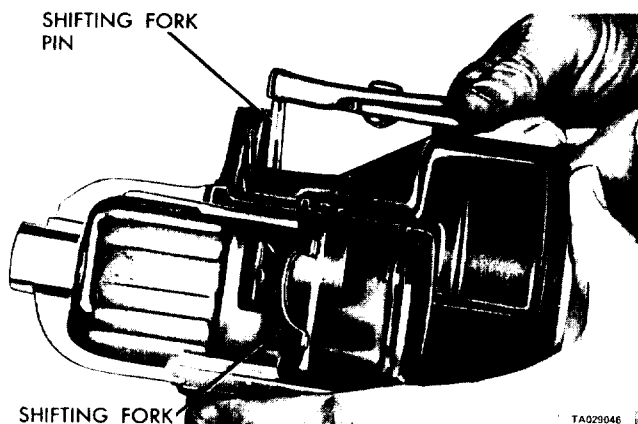

Figure 15-19. Removing Shifting Fork Pin.
s. Remove the shifting fork retainer pin (figure 15-19), and remove the clutch shifting fork assembly.